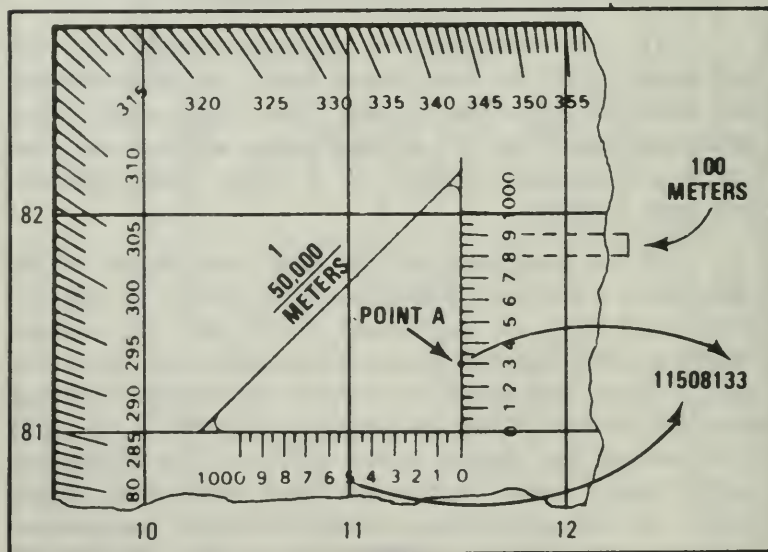

Figure 33. Determining the 100-meter square identifier.
(1) To determine a six-digit coordinate, the 100-meter mark on the bottom scale, which is nearest the vertical grid line, is the third digit, 115. The 100-meter mark on the vertical scale, which is nearest Point A, is the sixth digit, 813. Putting these together, you have 115813.
(2) To determine an eight-digit coordinate, which will locate a point on the ground to within 10 meters, you must keep in mind that there are 100 meters between each 100-meter mark (number) on the scale, with a short tick mark to indicate 50 meters between each 100-meter mark. As shown in Figure 33, the grid line crosses the bottom scale right on the 500-meter mark, which would make the third and fourth digits 1150. If the grid line crossed the scale somewhere between the 500- and 600-meter marks, you must interpolate how many meters it is beyond 500 meters. To determine the seventh and eighth digits, read the
right-hand scale where the point is on the scale. As shown in Figure 33, the point is between the 300 mark and the 50-meter tick mark. At this point, you must estimate how many 10s the point is beyond the 300 mark. In this case it is 3, which gives you the seventh and eighth digits, 8133. putting these together, you have 11508133 (Figure 33).